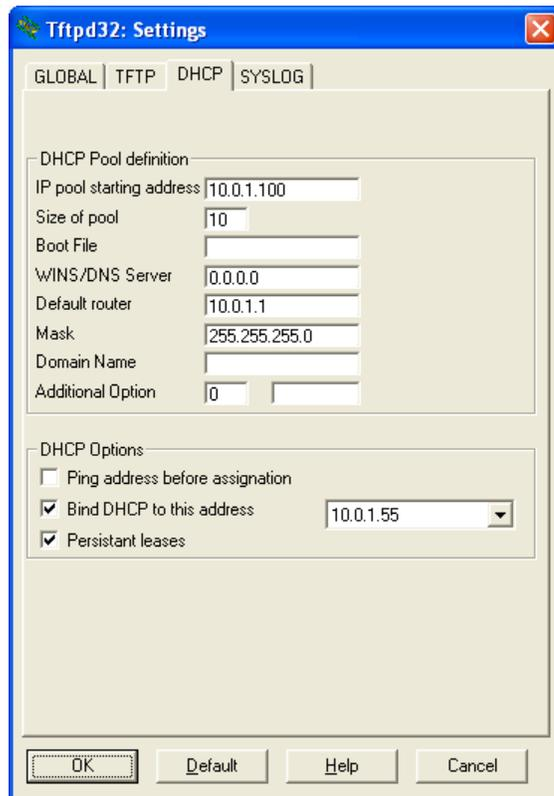

Figure A-3. DHCP Tab
- On the *DHCP* tab, set the *IP pool starting address* to **10.0.1.100**, *Size of pool* to **10**, *Default router* to **10.0.1.1** and *Mask* to **255.255.255.0**. Verify that **Bind DHCP to this address** is checked and select address **10.0.1.55**. Verify that **Persistent leases** is checked. See Figure A-3. Close Tftpd32.